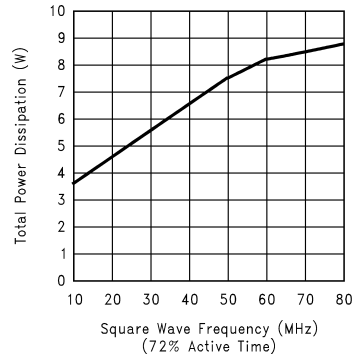

FIGURE 6. Power Dissipation vs Frequency
*Figure 6* shows the maximum power dissipation of the LM2415 vs Frequency when all three channels of the device are driving an 8 pF load with a 40 Vp-p alternating one pixel on, one pixel off signal. The graph assumes a 72% active time (device operating at the specified frequency) which is typical in a monitor application. The other 28% of the time the device is assumed to be sitting at the black level (65V in this case). This graph gives the designer the information
The LM2415 case temperature must be maintained below 100°C. If the maximum expected ambient temperature is 70°C and the maximum power dissipation is 8.7W (from *Figure 6*, 72.5 MHz bandwidth) then a maximum heat sink thermal resistance can be calculated: